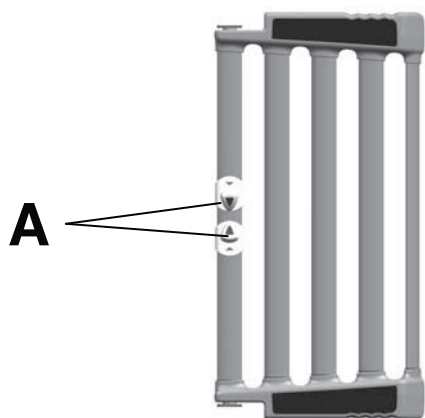

Figure 7 – Access door
To open the access doors, squeeze the release knobs (A) (Figure 7).